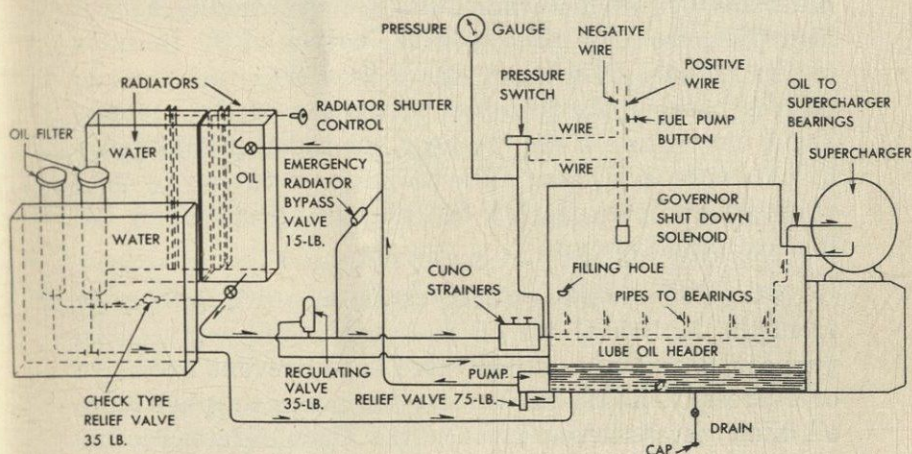

Fig. 15
48. Figure 15 is a schematic diagram of the lubricating oil system. The oil supply is shown in the crank-
50. Referring again to Fig. 15, there is a 75-pound relief valve at the oil pump. A pipe leads from this relief valve back to the crankcase. This relief valve operates if the lubricating oil pipe line becomes closed for any reason. Oil from the pump is forced through the tubes